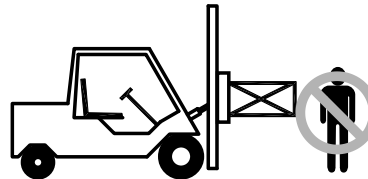

Figure 2-3,
- Never stand in front of or beside an attachment that is being operated. Never allow another person to approach an attachment that is being operated. (Figure 2-3)